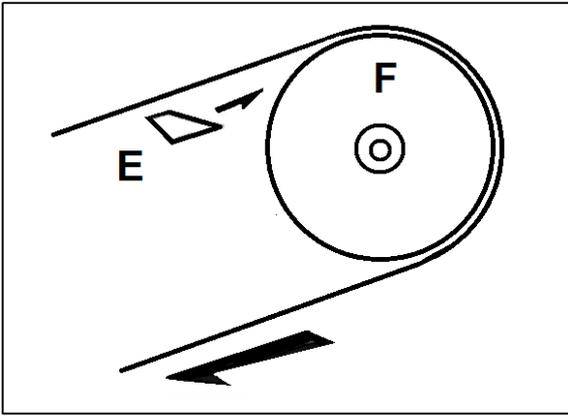

Figure 8-7: Blade Tracking Check
- When turning the set screw (D) clockwise, the blade will ride closer to the flange.
- When turning the set screw (D) counter-clockwise, the blade will ride away from the flange. If the blade rides too far then it will come off.
- Use a strip of scrap paper (E, Fig 8-7) and slide it between the blade and the flywheel (F).